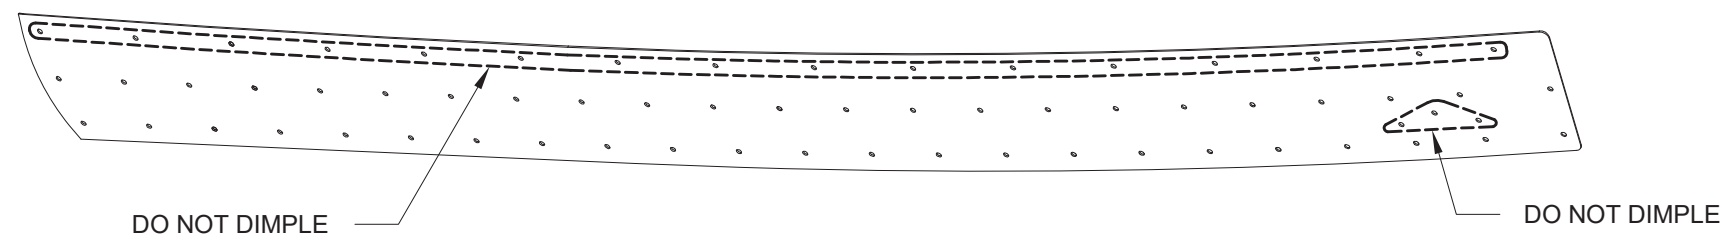

FIGURE 2: DIMPLE CANOPY SIDE SKIN
Step 2: Dimple the holes in the C-01419-L Canopy Side Skin except as indicated in Figure 2.